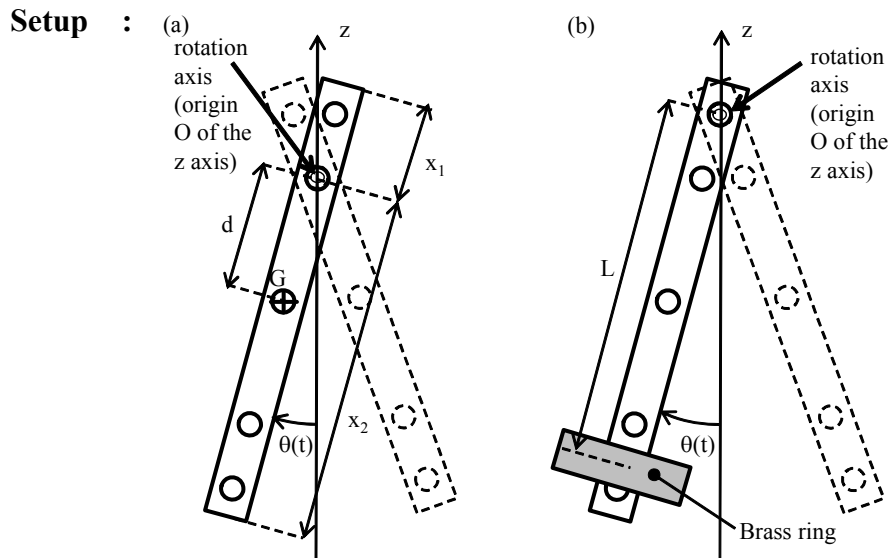

Figure 2.2 :
- (d) According to theory, for a rigid wire of negligible section as compared to the length (see figure 2.2.a), inertia momentum should be equal to :
- (a) Chose one the two holes at the end of the rod as rotation axis (figure 2.2.b).